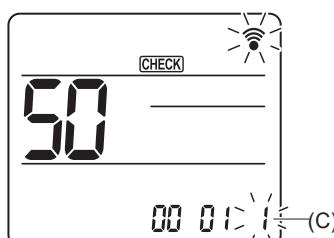

Fig. 6-17
- (4) Selecting the setting number
Use the **[▼]** button to change the Setting number (C). (Fig. 6-17)